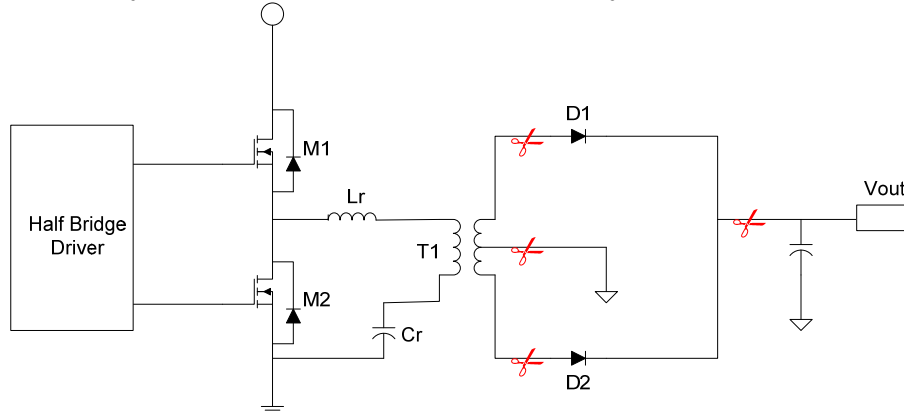

Figure 5—How to disconnect the diode rectifiers
1. Remove the diode rectifiers from the board as the Fig.5 shows.